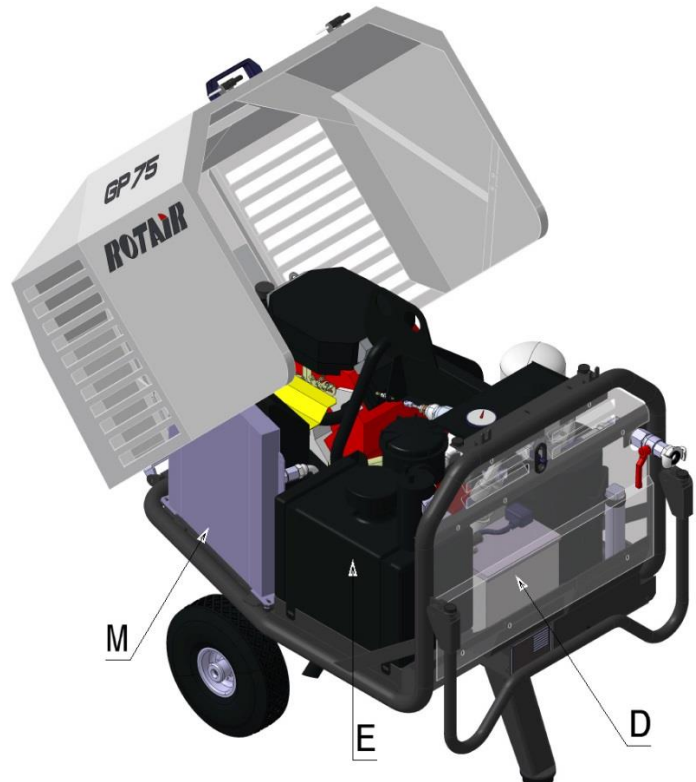

Figure 7-2
7.4 Battery - Figure 7-2 Part.D
7.7 Fuel tank- Figure 7-2 Part.E
7.8 Cooling radiator- Figure 7-2 Part.M